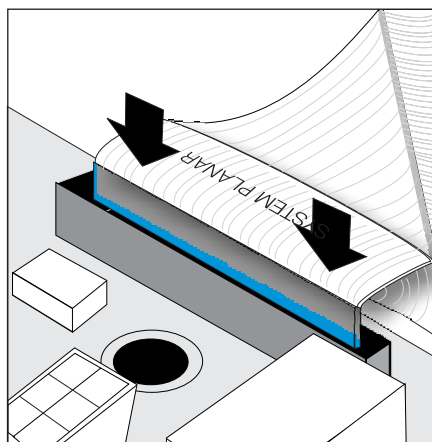

Figure 91. Install the service controller card cable into the system board of the SAN Volume Controller 2145-4F2
11. To reinstall the cables, *carefully* install the one end of the ribbon cable (marked System Planar) to the system board being sure to install the cable straight in. See Figure 91.